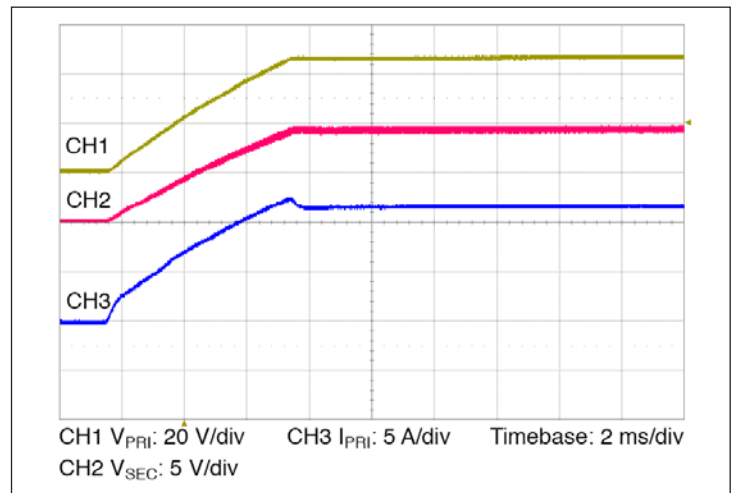

Figure 10 — Start up from application of V_{PRI} ; VC pre-applied $C_{SEC} = 1000 \mu F$
- Normal operation (VC applied prior to the source voltage): In this case, the controller is active prior to the source ramping. When the source voltage is applied, the VTM module load voltage will track the source (See Figure 10). The inrush current is determined by the source voltage rate of rise and load capacitance. If the VC voltage is removed prior to the primary voltage reaching 26 V, the VTM may shut down.